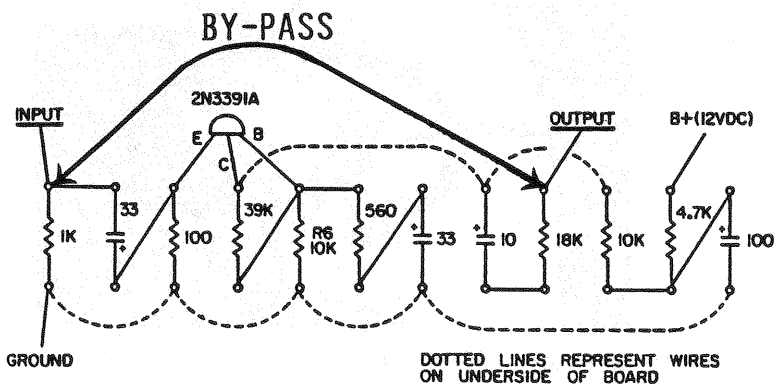

FIG. 115
- 1) To verify an open condition, just short across from input to output. You'll have a terrible impedance mismatch, but at least you'll know whether or not the matching device is at fault (Fig. 115).
- 3) These same matching and pre-amp circuits were used on the later Phenolic style boards, but they were usually incorporated right on the board (Fig. 115 and 116).